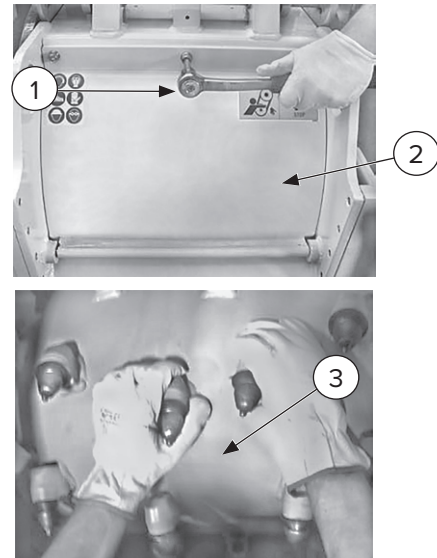

Figure 15
2. Remove the screws [Figure 15, Item 1], and open the guard [Item 2].